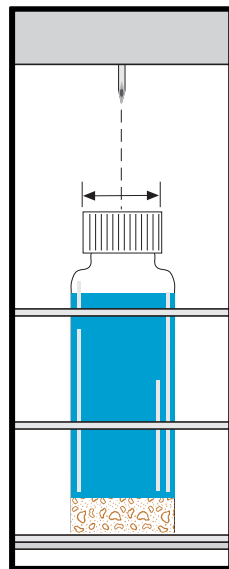

Figure 4.6. Needle Alignment
6. Center the needle above the vial by manually moving the platter under the carousel (see Figure 4.6).